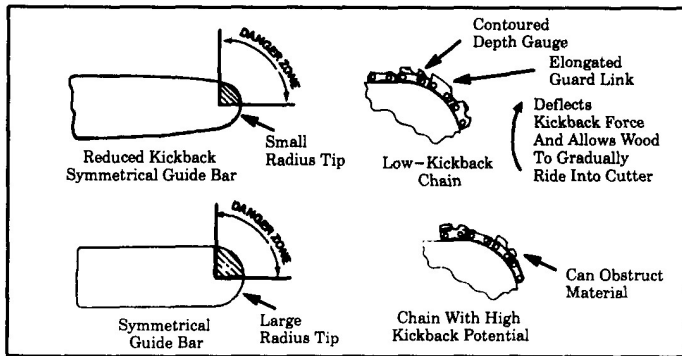

Figure 5
- **Reduced-Kickback Guide Bar,** designed with a small radius tip which reduces the size of the kickback danger zone on the bar tip. Figure 5. A Reduced-Kickback Guide Bar is one which has been demonstrated to significantly reduce the number and seriousness of kickbacks when tested in accordance with the safety requirements for gasoline powered chain saws as set by ANSI B175.1 - 1991 (American National Standards Institute, Inc., Standard B175.1 - 1991).
- **Low-Kickback Chain,** designed with a contoured depth gauge and guard link which deflect kickback force and allow wood to gradually ride into the cutter. Figure 5. Low-Kickback Chain is chain which has met kickback performance requirements of ANSI B175.1 (Safety Requirements for Gasoline-Powered Chain Saws) when tested on a representative sample of chain saws below 3.8 cubic inch displacement specified in ANSI B175.1.